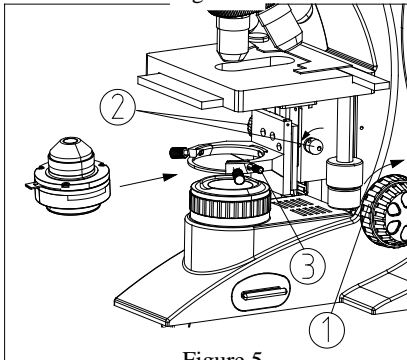

Figure 5
1. Adjust coarse focus knob ① to raise the stage in highest location. (Figure 5)
2. Adjust the condenser adjustment knob ② to lower the condenser bracket down to the appropriate location.
3. Loosen the lock-screw ③ of condenser.
5. Tighten the lock-screw ③, then adjust the condenser ② to the highest position .